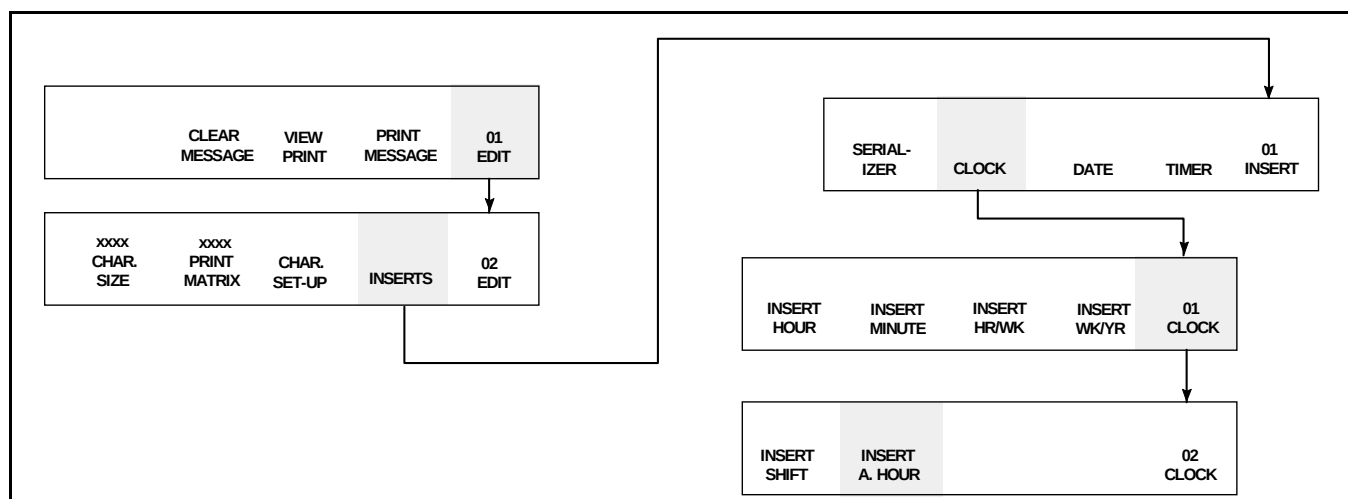

Figure 6-19. Accessing Frame <02 CLOCK>
1. Begin in Frame <02 CLOCK>. Refer to Figure 6-19.
1. Begin in Frame <04 DATE>. Refer to Figure 6-19.